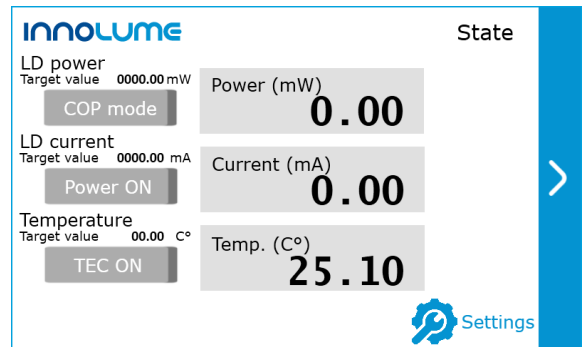

Figure 2 – CW driver menu
4. In CW driver menu that appears (fig.2), press  to go to the settings menu